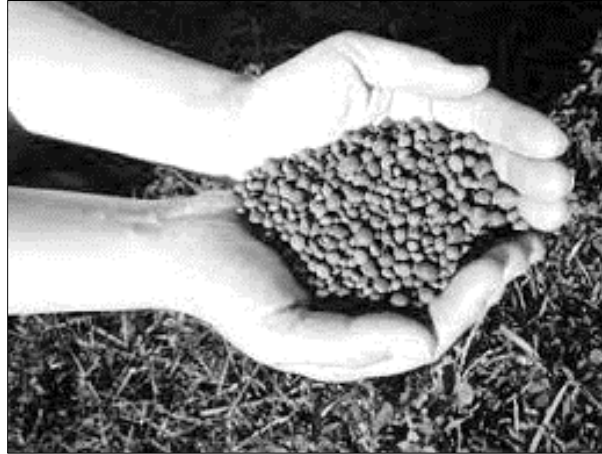

Figure 4-10. Heat drying produces Class A residuals in the form of pellets.
- ❑ **Heat Drying.** Heat drying is a PFRP and, when conducted according to requirements, produces residuals that are Class A for pathogens. This process involves heating residuals in a dryer to evaporate most of the water. It results in a very dry product, often in the shape of small pellets, with a solids content of 90% or higher (Figure 4-10). By removing most of the water, heat drying significantly reduces both volume and weight of the residuals.